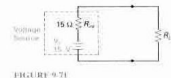

FIGURE 9-71
- Calculate the output voltage (V_o) in Figure 9-71 if R_2 is equal to: